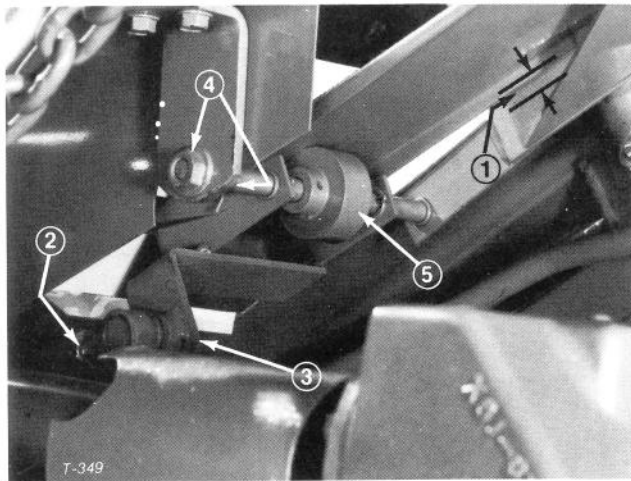

Figure 43
2. Depress traction pedal fully. There must be 2.5 inches (63.5 mm) between inside front edge of pedal and triangular support brace (Fig. 43). If distance is as specified, the control rod is adjusted correctly. If distance is not as specified, proceed to step 3 for an adjustment.
3. Loosen jam nut away from front of control rod (Fig. 43). Remove cotter pin and slotted nut retaining tapered socket in pivot mount on bottom of traction pedal (Fig. 43).
1. Loosen two nuts securing traction pedal shaft on right side of pedal (Fig. 43).